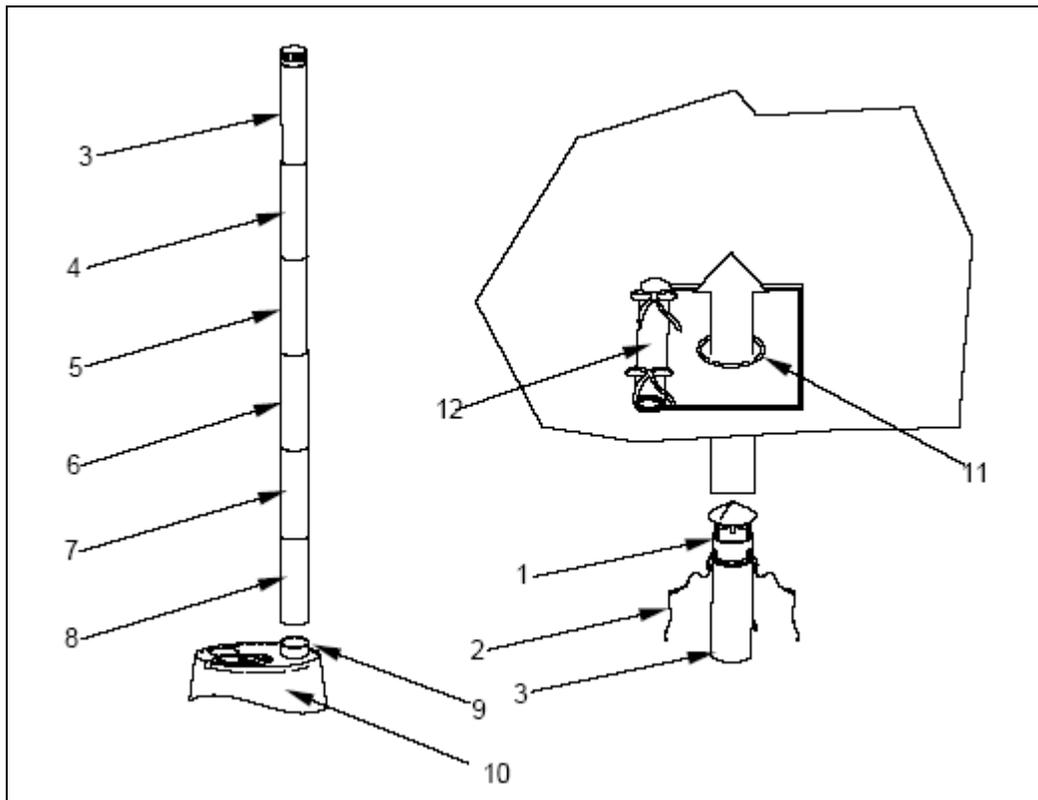

Figure 14
b. Assemble The Stack. (See Figure 14)